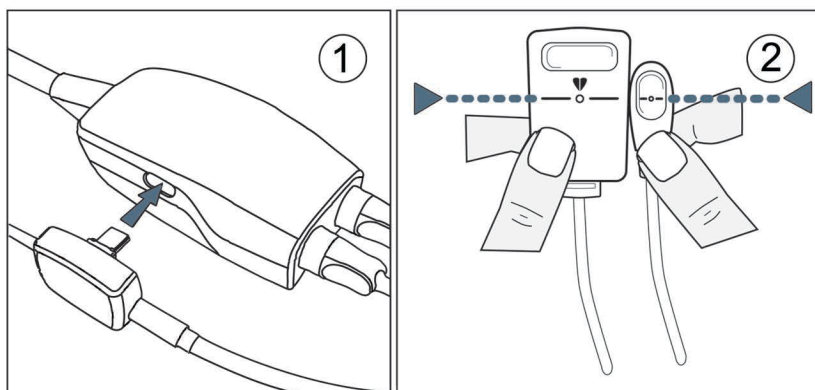

Figure 11-10 Heart reference sensor calibration
- 2 Connect the HRS to the wrist applied pressure controller. See ① in figure 11-10.
- 3 Vertically align both ends of the HRS and touch the **Calibrate** button. See ② in figure 11-10.